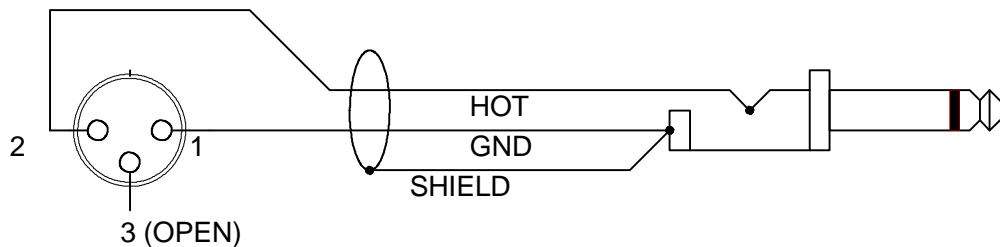

Figure 1. UNBALANCED OUTPUT CABLE TERMINATION
- iii. Connect the level meter to the output of channel 1. Set the input attenuator to +20dbu range. If the generator has an unbalanced input refer to Figure 1 for termination information.
- ii. Unbalanced output cable. (see Figure 1.)